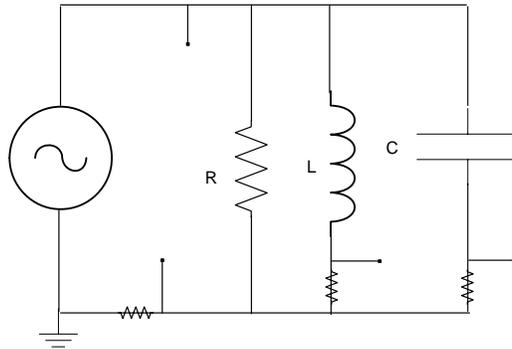

Fig. 5. The experimental setting to record resonance.  $R= 100 \Omega$ ,  $L=100 \text{ mH}$ ,  $C= 10 \mu\text{F}$ .
7. Construct the circuit of Figure 5. Set the supply to 1 V in the sinusoidal mode.
- 5. (a) For the circuit of Figure 5, draw on separate graphs the magnitude and angle of the circuit impedance vs the frequency of the source. Use your measurements. Mark the resonance frequency on the graph. Compare with the theoretical value. What is the magnitude and angle of the circuit impedance at resonance? In what frequency range is the impedance inductive? In what frequency range is the impedance capacitive?